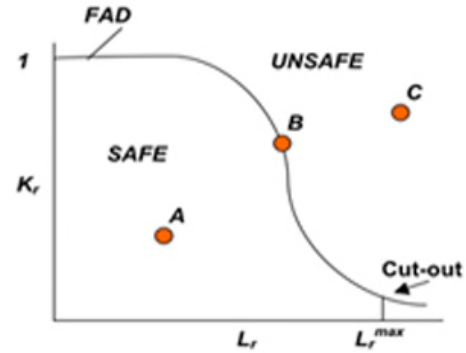

Figure 3. Failure Assessment Diagram (FAD)
The procedure is based on fracture mechanics and using a diagram called Failure Assessment Diagram (Figure 3) in order to assess safe or unsafe operation of an asset.
- Provide guidance for acceptability of fabrication induced flaws which could be outside the acceptability of current codes (Figure 3)